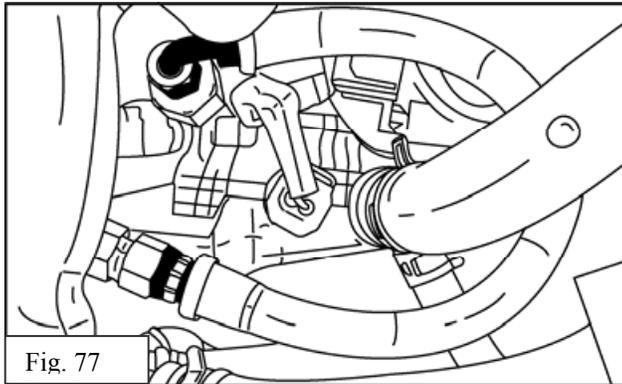

Fig. 77
- (a) Next, attach TRD supercharger Oil Feed Line to TRD hexagonal T fitting. Connect the 90 degree bend end of the oil feed line to the T fitting. Leave hand tight for now. Fig. 77.
- (b) Attach the other, straight end, of Oil Feed Line to supercharger fitting. Leave hand tight for now. See Fig 77. **Do not use Teflon paste on AN fittings.** The feed tube should route between heater hoses. Heater hose clamp will need to be relocated about 8 inches rearward.